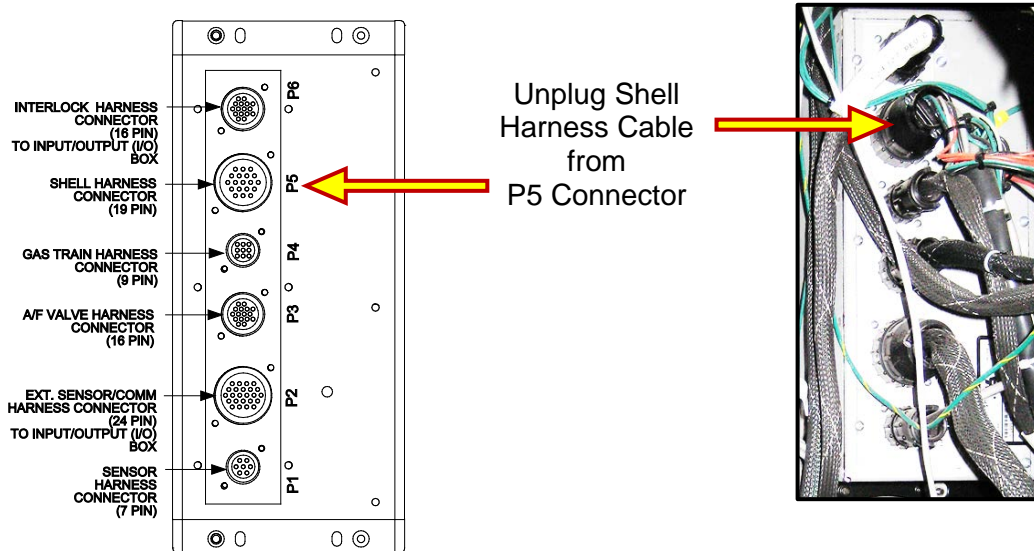

Figure 6-12: Removing Shell Harness Cable from P5 Conn. on C-More Rear Panel
- Remove the Shell Harness Cable (male) connector from the P-5 (female) connector on the rear panel of the C-More controller (see Figure 6-12).